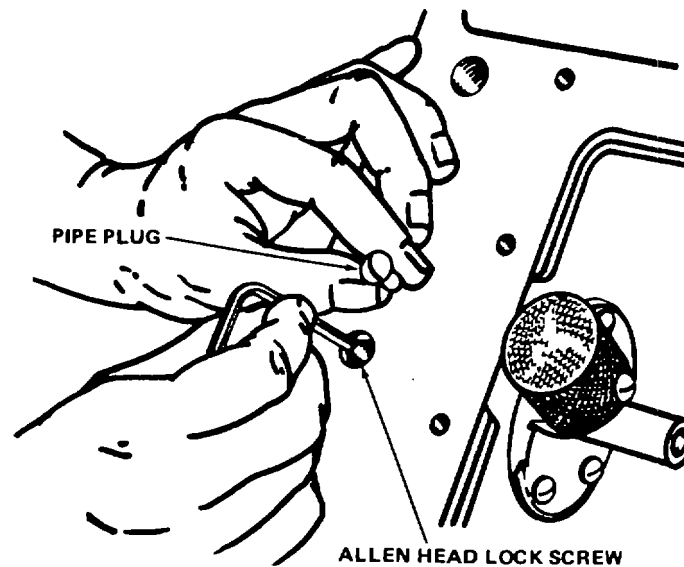

Figure 6-30. Head Pipe Plug
- (9) Install alien setscrew and slotted head pipe plug. See Figure 6-30.
- (10) Install woodruff key.
- (11) Position oil pump drive gear over end of oil pump drive shaft. Align keyway in drive gear with woodruff key. Seat drive gear onto drive shaft with soft hammer.
- (12) Secure drive gear onto shaft with hex nut.